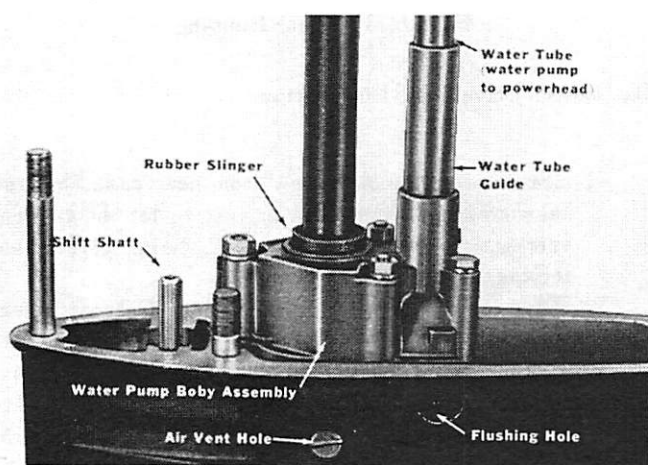
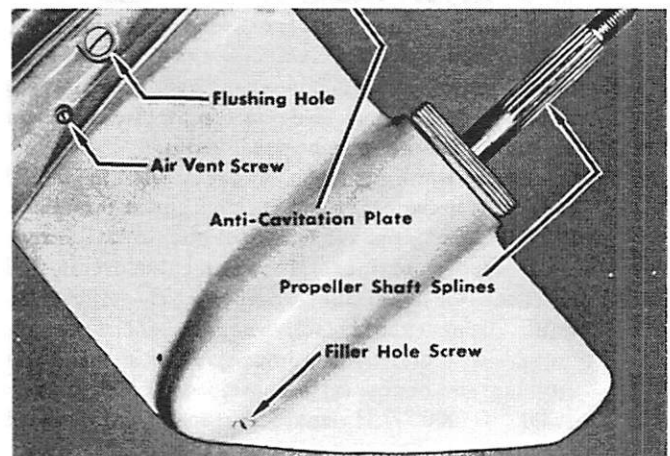

Figure 12. Water Pump Assembly Installed (New Style)
Figure 15. Gear Housing
1. Remove filler hole screw from gear case, located as shown in Figure 15, or just to left of air vent screw, as shown in Figure 12, being careful not to lose accompanying washer.
3. Remove air vent screw from air vent hole just above anti-cavitation plate, being careful not to lose accompanying washer. (Figure 12 or 15)
5. Replace air vent screw and washer into air vent hole and tighten before removing tube from filler hole, when hole is in position as shown in Figure 15. This will create an airlock and hold oil in gear case until filler hole screw is replaced.